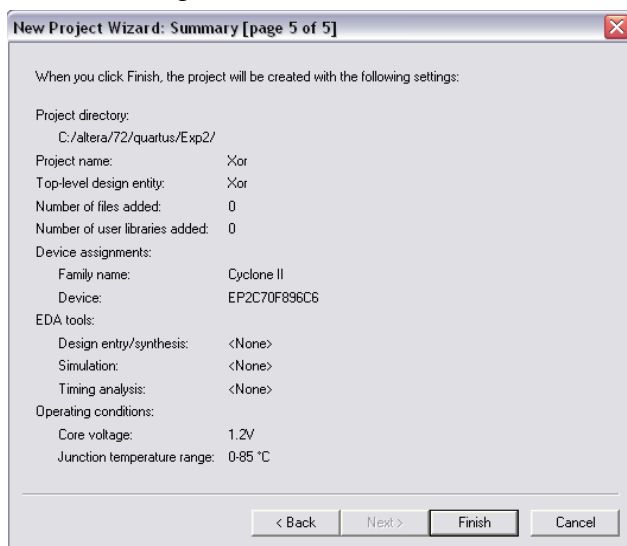
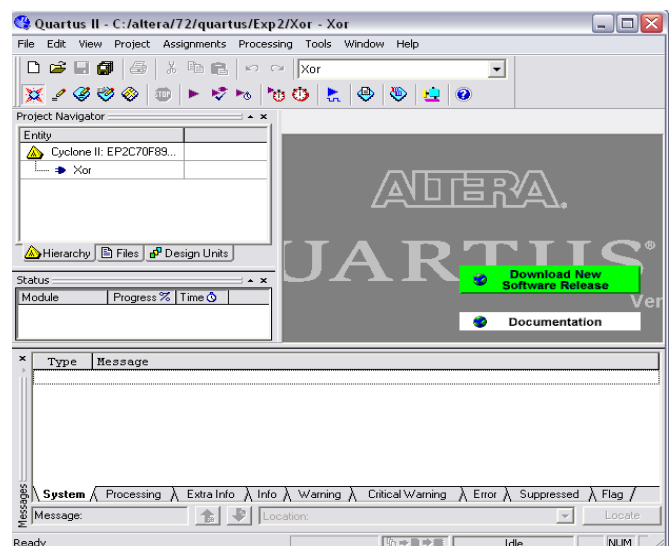

Figure 7. Summary of the project settings.
Figure 8. The Quartus II display for the created project.
6. A summary of the chosen settings appears in the screen shown in Figure 7. Press **Finish**, which returns to the main Quartus II window, but with Xor specified as the new project, in the display title bar, as indicated in Figure 8.